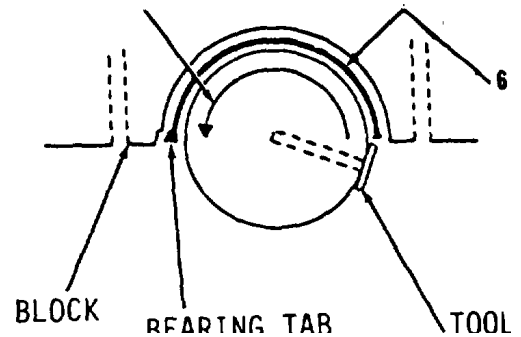

Figure 13-21.
3. Install tool in crankshaft journal (Figure 13-21).
6. Rotate crankshaft and tool against new upper main bearings (6, Figure 13-21) to push bearings into position. For this step, rotate crankshaft clockwise when engine is viewed from rear.